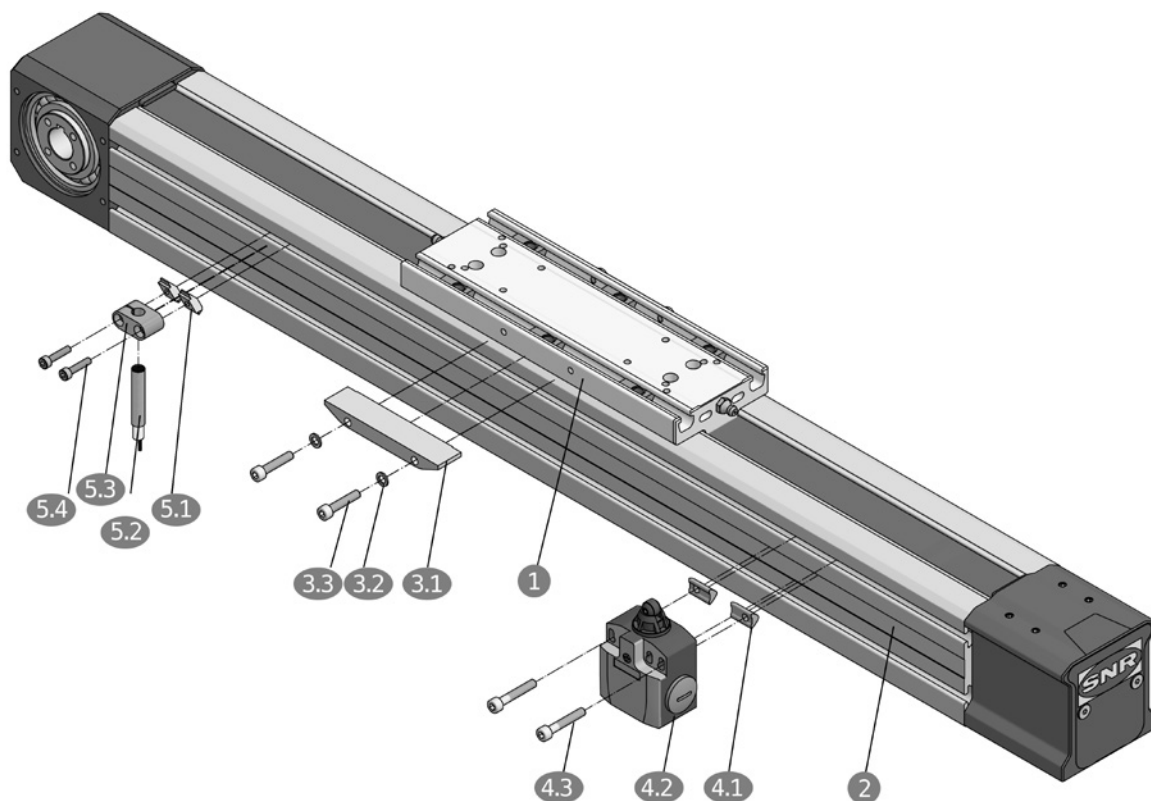

Figure 3.12 __ Mounting of limit switches for Linear Axis AXE_Z
For the mounting of the limit switches and actuating elements the following steps have to be proceeded according in accordance to Figure 3.12. The table ❶ and the profile ❶ of the Linear Axis are designed symmetrically so that mounting on both